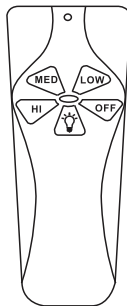

FIGURE 5
- HI, MED, LOW buttons (Figure 5):**
- OFF button (Figure 5):**
- Light button (Figure 5):**